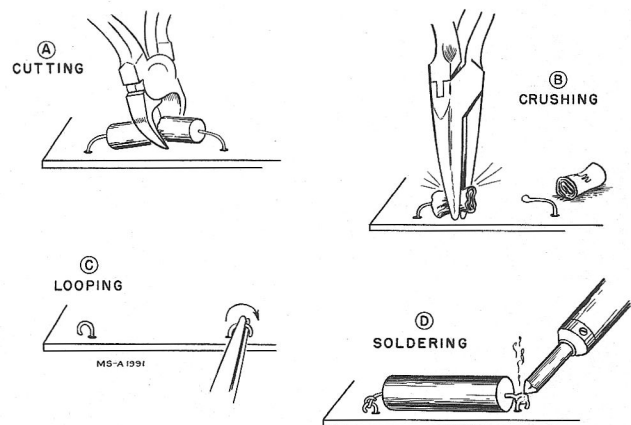

Fig. 55—Procedure Used to Replace Components in Printed Circuit Boards
To replace capacitors or resistors on printed circuit boards without removing the boards from the chassis proceed as follows: (see figure 55.)
1. Cut the component in half with a pair of diagonal cutting pliers. (Fig. 55(a).)
2. Remove the body of the component from the connecting wires leaving as much wire as possible for connecting purposes. (Fig. 55(b).)
3. Prepare connecting points for the replacement component by cutting the wire, leaving one-fourth inch to five-sixteenth inch, and form a connecting loop as shown in figure 55(c).